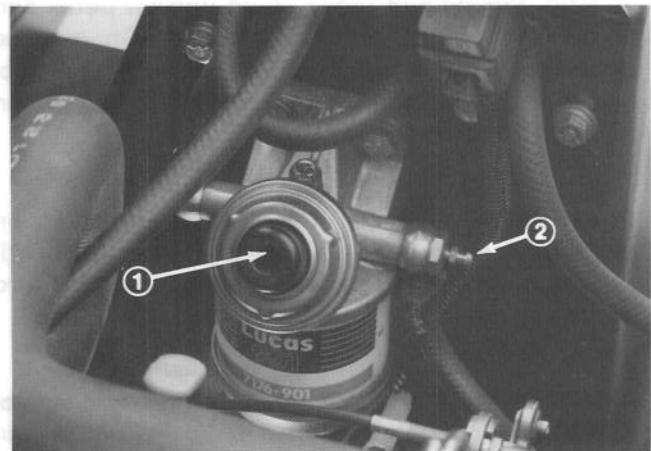

Figure 24
PRIMING FUEL SYSTEM (Fig. 24 & 25)
3. Loosen fuel filter / water separator bleed screw (Fig. 24) a few turns. Pump priming plunger until a steady stream of fuel comes out of hole in bleed screw. When fuel stops foaming, tighten the bleed screw during the downstroke of the priming plunger. Wipe up any spilled fuel.